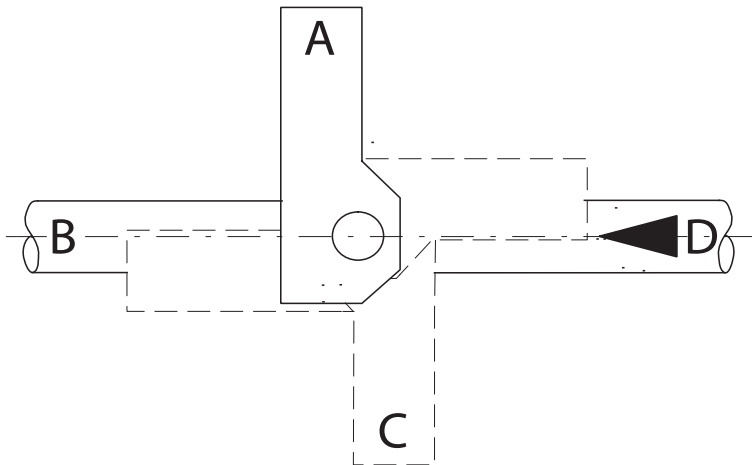

Fig.5-12 Actuator mounting position
5. Assemble the actuator with the bracket on the desired position (A, B, C or D) (→ Fig.5-12) onto the shaft of the butterfly valve body. Fix the unit with the screws (→ Fig.5-11/6).